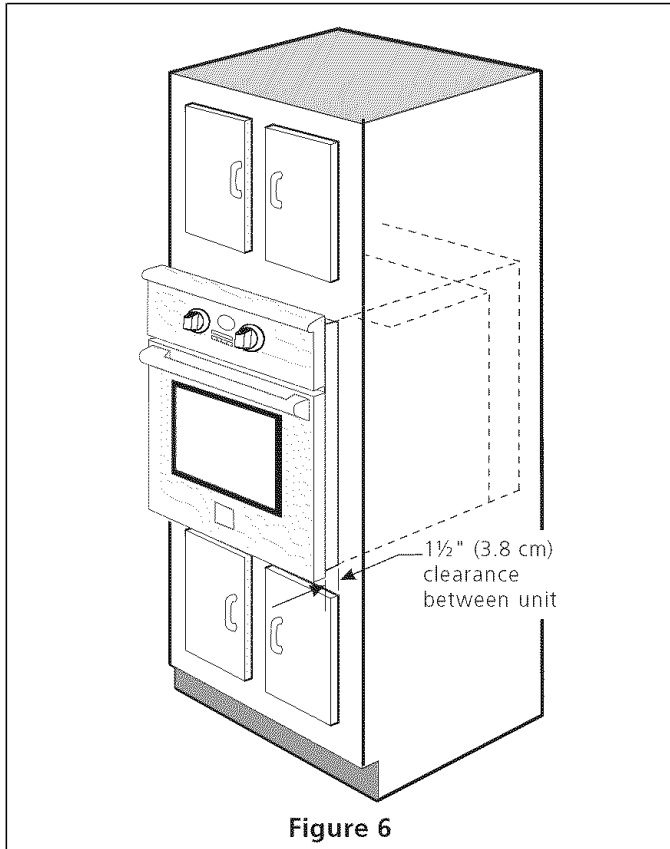

Figure 6
3. Insert the oven into the cabinet opening. Slide oven inward leaving 1½" (3.8 cm) clearance between the oven and front of cabinet (see Figure 6). Pull the appliance cable through the hole for it in the cabinet and toward the junction box while moving the appliance inward.